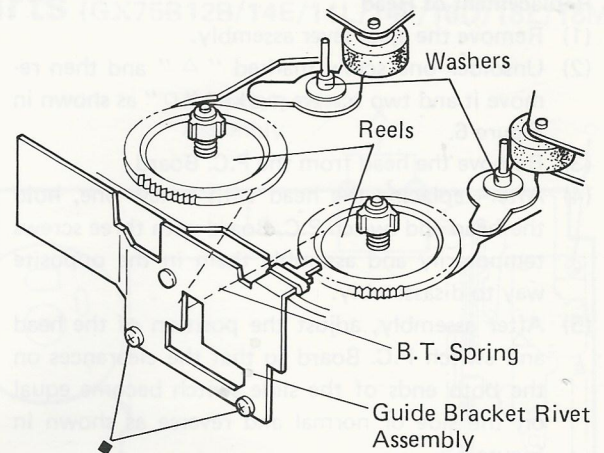

Figure 8
NOTE: The washers as shown in Figure 8 are taken off together with the flywheel, be sure not to lose them.
- (3) Remove two screws marked "■" to remove the guide bracket rivet as shown in Figure 8.
- (4) Remove B.T. spring to take off the reel bracket as shown in Figure 8.